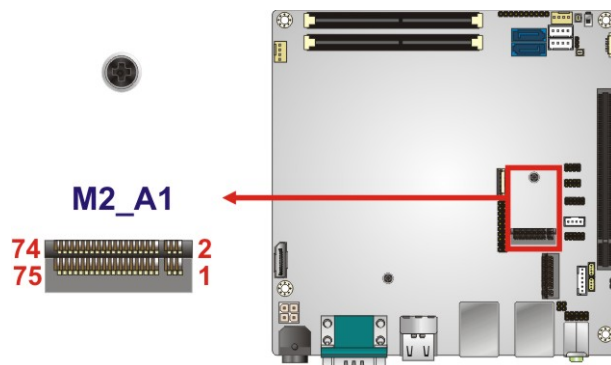

Figure 3-18: M.2 A-key Slot Location
- CN Location:** See **Figure 3-18**